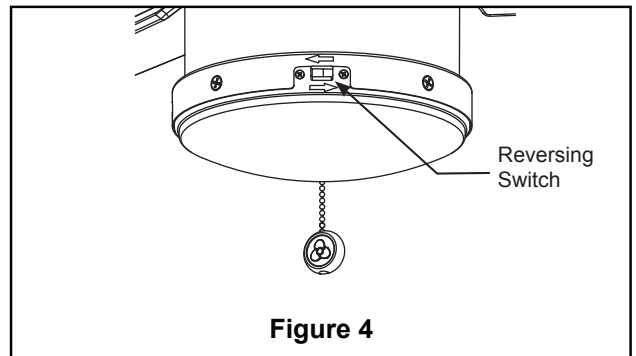

Figure 4
4. Carefully lift the fan and seat the downrod/hanger ball assembly onto the hanger bracket that was just attached to the outlet box. Be sure the groove in the ball is lined up with tab on the hanger bracket. (Figure 4)
5. Attach the safety cable to ceiling support cable. Slide cable clamp and washer onto safety cable (from fan). Place the end of cable through the loop of ceiling support cable. Pull as much cable through loop as possible. Feed end of cable into clamp hole and firmly tighten screw. (Figure 4)
- 4. Assemble the switch cover assembly onto the switch housing using the previously removed screws and securely tighten all screws. (Figure 4)
4. If airflow is desired in the opposite direction, turn the fan off and wait for the blades to stop turning. Then slide the reverse switch to the opposite position and turn fan on again. (Figure 4)